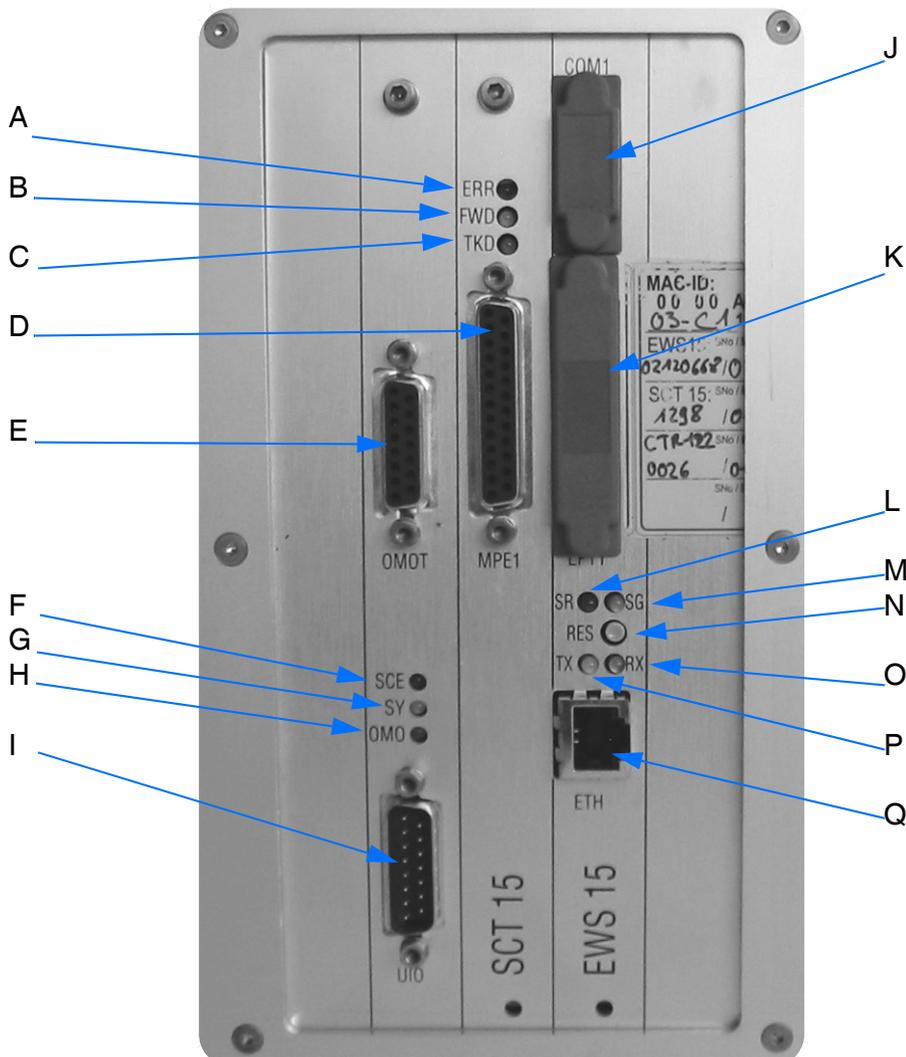

Figure 67: IFS 125HR - LEDs and cable connectors
**Note: The Reset button is on the electronics panel, see figure 67 on page 147.**
The red ERR LED (A in figure 67) indicates an interferometer error, e.g. a missing laser signal. As long as this LED lights, no data acquisition is possible. See chapter 7 for troubleshooting. The ERR abbreviation means *Error*.
The yellow FWD LED (B in figure 67) indicates the current interferometer mirror movement. As long as the interferometer mirror moves forward this yellow LED lights. During the backward movement the LED does not light. Thus, the LED flashes in the rhythm of the interferometer mirror forward and backward movement. This rhythm depends on the measurement parameters selected (e.g. resolution and velocity). When data acquisition actually takes place the light intensity changes to bright yellow. The FWD abbreviation means *Forward*.
The green TKD LED (C in figure 67) indicates that the interferometer mirror is within the data acquisition range. Typically, it flashes with twice the frequency and synchronous to the FWD LED. When data acquisition actually takes place the light intensity changes to bright green. The TKD abbreviation means *Take Data*.
The MPE 1 (D in figure 67) is a versatile port to connect external optical modules and detectors. It includes a complete CAN-Bus, transmits all required remote trigger signals and establishes a complete connection to DDC (Digital Detector Connection) compatible detectors.
The OMOT port (E in figure 67) controls the outer scanner motor. It is connected to the last scanner compartment. The OMOT abbreviation means *Outer Motor*.
If the SCE LED (F in figure 67) is in the OFF, the spectrometer status is OK. The SCE LED continuously lights if one of the following problems occurred:
The yellow SY LED (G in figure 67) is an LED for functions not yet defined.
The OMO LED (H in figure 67) indicates the operating status of the outer scanner motor. If the LED lights green, the outer motor is powered and the scanner performs in the long-scan mode. If the LED is OFF, the outer motor stops and the scanner performs in the short-scan mode.
The user I/O port (I in figure 67) is a future expansion port for functions not yet defined. The UIO abbreviation means *User Input/Output*.
The COM1 port (J in figure 67) is similar to a conventional, PC-compatible serial port. It is only used for special applications.
The LPT1 port (K in figure 67) is reserved for diagnostics. **Do not connect any device to this port!** The LPT abbreviation means *Line Printer*.
The red SR and green SG LED (L and M in figure 67) indicate the internal operating status of the spectrometer communication processor. The SR LED lights red during the boot process. Communication via Ethernet is not possible before the SR LED turns off. See chapter 7 for troubleshooting. The abbreviation SR means *Status Red*, and SG means *Status Green*.
The spectrometer is equipped with a reset button (N in figure 67) which is similar to the one known from a PC. If you press this button for more than 1 second, the spectrometer will be reset without the need to turn it off. The effect is identical to switching the spectrometer off and on again. Additionally, this button is used when assigning an IP address to the spectrometer. For further details, see appendix E.
These LEDs (O and P in figure 67) indicate the data transfer between the spectrometer and the data system via the Ethernet connection. In case of the stand-alone configuration, the green RX LED indicates that the spectrometer receives data. If the spectrometer is connected to an Ethernet network, the green RX LED indicates that data are transmitted on the Ethernet (this does not necessarily mean that the data are determined for the spectrometer).
The ETH connector (Q in figure 67) is primarily used to connect the spectrometer to a computer on which the application software (e.g. OPUS™) is installed. The spectrometer can be connected either to a 10Base-T intranet or directly to the computer using a cross-over cable (stand-alone configuration). This is a standard cable in which the TX and RX lines are cross-linked.